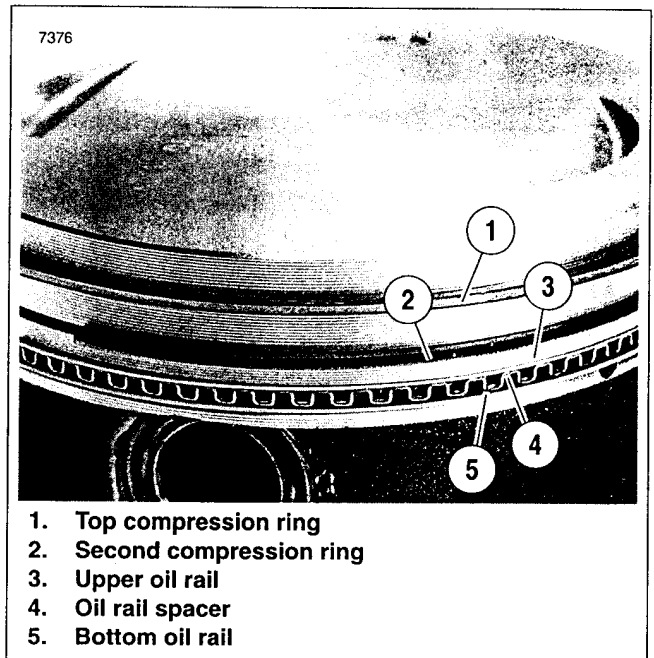

Figure 3-119. Piston Rings
3. See Figure 3-119. Install piston rings as follows:
- b. Install oil rail spacer (4) into third ring groove.
- c. Spiral bottom oil rail (5) into space below oil rail spacer (4). Position gap 90 degrees from the gap in the oil rail spacer.
- d. Spiral upper oil rail (3) into space above oil rail spacer (4). Position gap 180 degrees from the gap in the bottom oil rail.